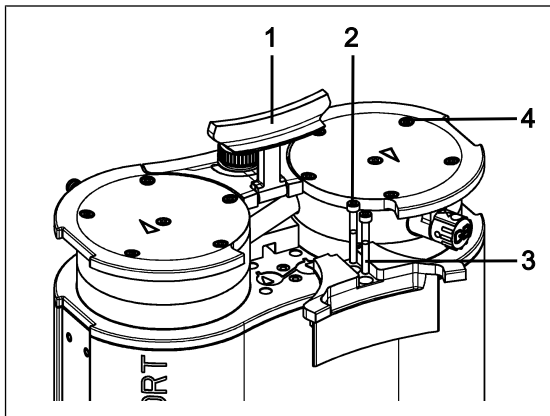
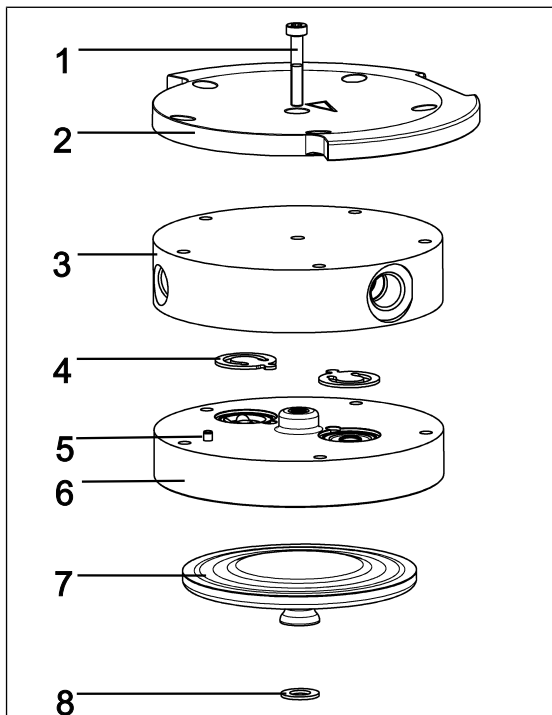

Fig.8: Dismount cover
Fig.9: Pump head (pump N820 shown)
1. Set the handle (1/Fig. 8) to a vertical position.
2. Loosen the screws (2/Fig. 8) on the cover (3/Fig. 8).
3. Remove the cover (3/Fig. 8).
- Loosen the external head screws (4/Fig. 8).
**i** The two internal head screws (1/Fig. 9) remain tightened for the time being.
**i** The following item numbers refer to Fig. 9 unless specified otherwise.
- Mark the pressure plate (2), head plate (3) and intermediate plate (6) with a continuous pencil stroke. This prevents the parts from being incorrectly mounted later on.
- Loosen the external screws (4/Fig. 8) of the pump heads.
1. Move the diaphragms (7) to the center position.
2. Press on the entire perimeter of the diaphragm (7). Only press on the diaphragm (7) on one pump head.
3. Place the intermediate plate (6) with valve plates/seals (4) on the mount according to the pencil line.
4. Place the head plate (3) on the intermediate plate (6) in line with the locating pin (5).
5. Place the pressure plate (2) on the head plate according to the pencil line.
7. Tighten the screw (1) in the center of the pressure plate (tightening torque: 1 Nm).
9. Place the pump heads (consisting of head plate (3), intermediate plate (6) with valve plates/seals (4) and pressure plate (2)) together with the connection tube on the pump housing according to the pencil line.
10. Mount the handle cover (3/Fig. 8).
11. Tighten the screws (2/Fig. 8) of the handle cover (3/Fig. 8) (tightening torque: 2 Nm).